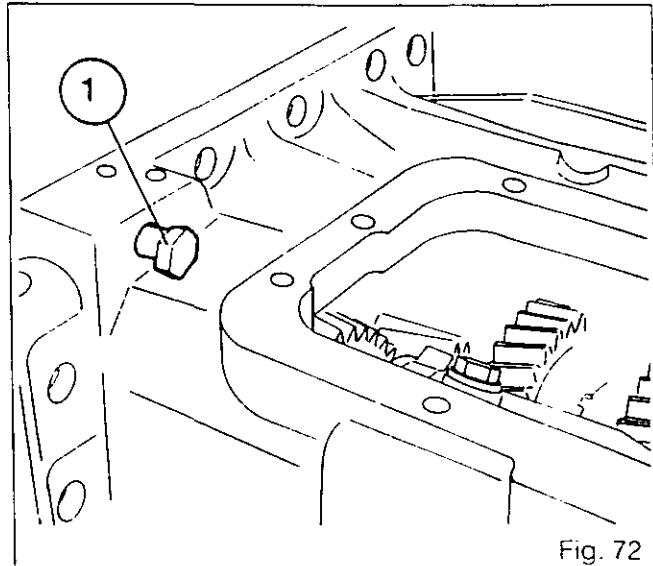

Fig. 72
**Note: Remember to position the bolt (1) on the housing (Fig.72).**